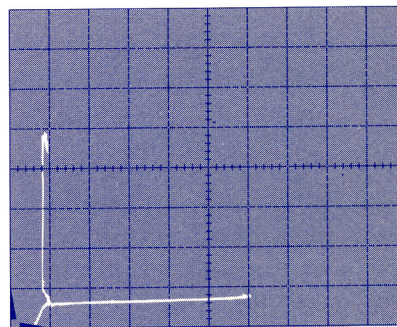

Figure 5-1. Display of gate trigger voltage V_{GT} test.
- 4) Apply gate voltage — Slowly increase OFFSET MULTIPLIER SETTING while carefully watching display. When trace switches suddenly from mostly horizontal line to vertical curve, SCR has turned on. See Figure 5-1. Note value shown on OFFSET MULT dial at this point. 24